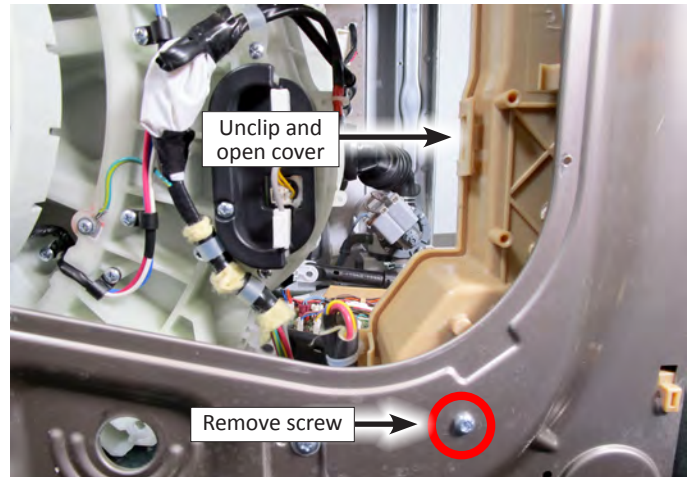

Figure 2
6. Using a T-20 Torx driver, remove screw used to secure the MCU to the back panel (See Figure 2).
7. From the rear access opening, unclip and open cover on the MCU housing (see Figure 2). Move cover to one side.